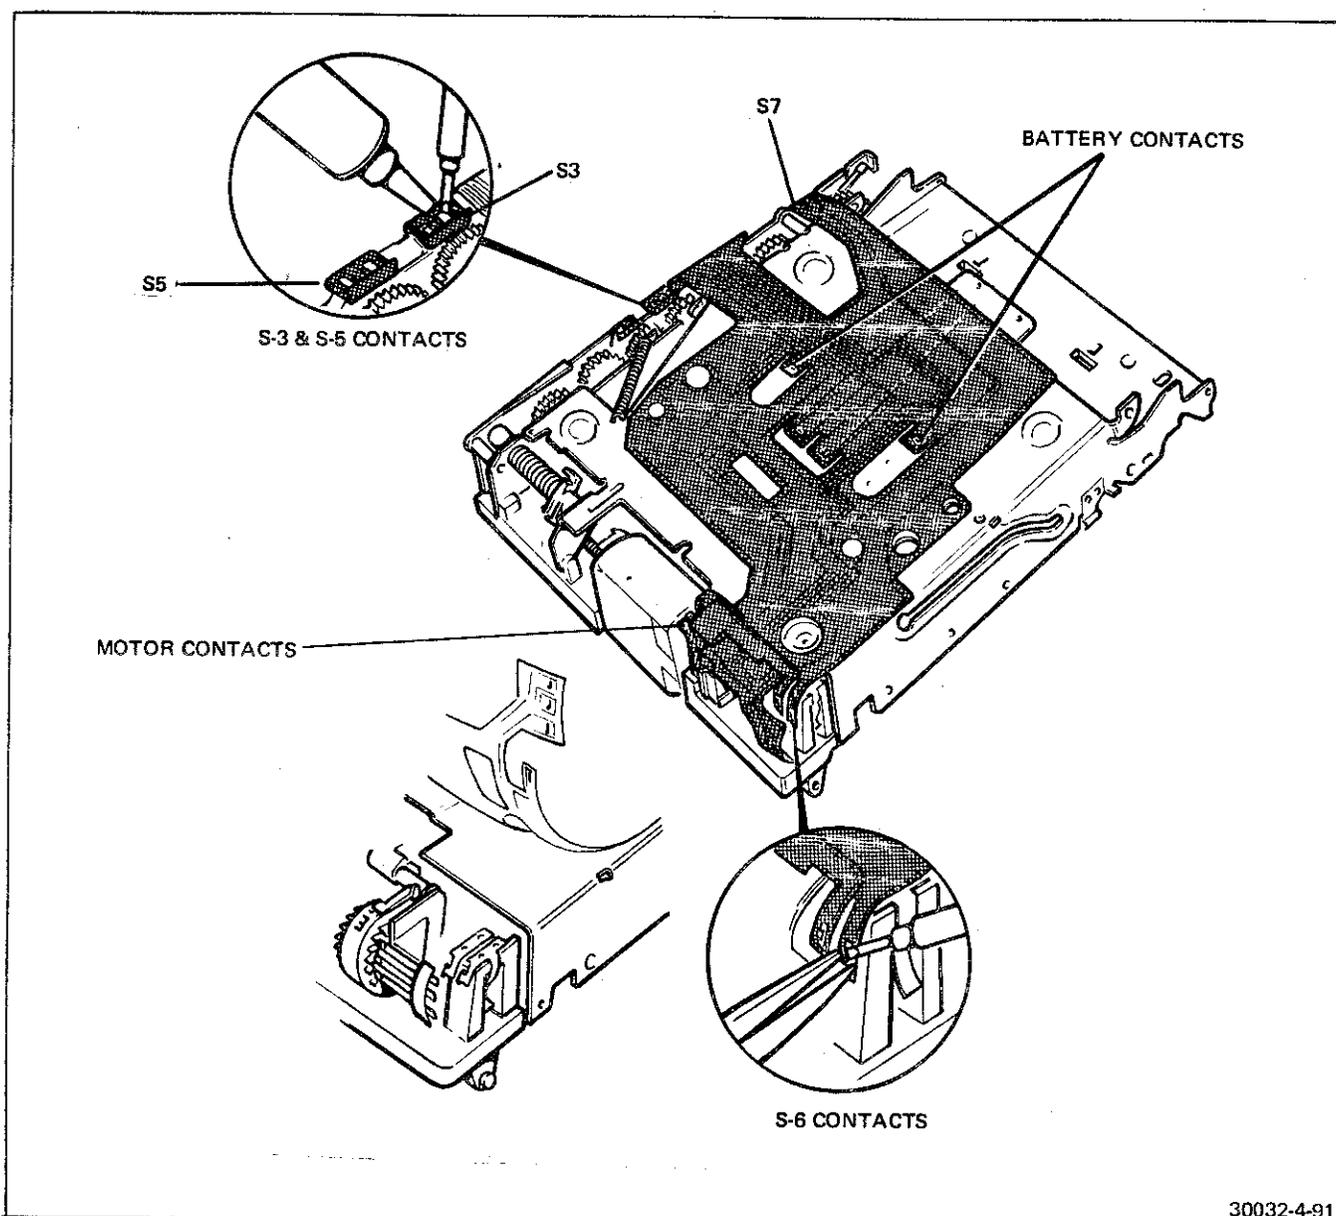

FIGURE 4-91 SOLDER POINT IDENTIFICATION
9. Insert an empty film pack, with one battery terminal insulated to prevent electrical continuity. Using a solder remover remove the solder from switch contacts S3, S5 and S7. See Figure 4-91. In many cases, removing the solder will completely free the flex circuit connections. Use tweezers and a soldering iron, heat the connection and lift off the flex with tweezers. Do not unsolder any other connections at this time. Use a lifting and twisting motion to free contacts from the flex circuit. On FAIRCHILD shutter installations observe the capacitor polarity.